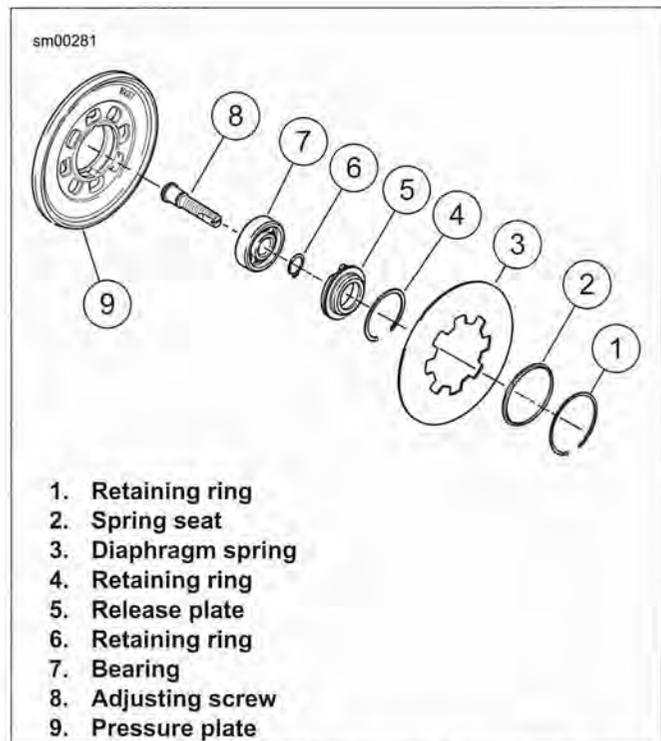

Figure 5-24. Adjusting Screw Assembly
1. See Figure 5-24. Remove adjusting screw assembly.
- a. Remove large retaining ring (1).
- b. Remove adjusting screw assembly from pressure plate (9).
- a. Remove and discard small retaining ring (6).
- b. Separate the adjusting screw (8) from the bearing (7) and release plate (5).
- c. Remove bearing (7) from release plate (5).